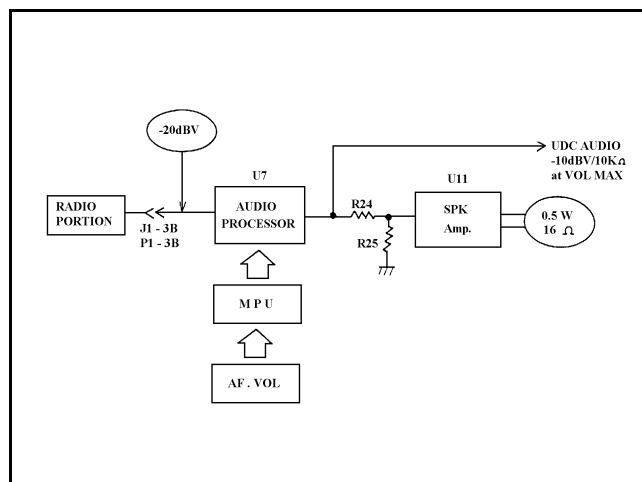

Figure 6 - Receive Audio Output
- b. Control Board : The receive RF signal comes into P1 , Pin 3B. The signal is then applied through a 14dB amplifier, 300-3000Hz BPF, Deemphasis and a 44 dB volume level control. The signal is then amplified by SPK amplifier U11 to drive the speaker. Typical levels needed to obtain a 1 kHz, 0.5 watt receive rated audio output are shown in Figure 6.